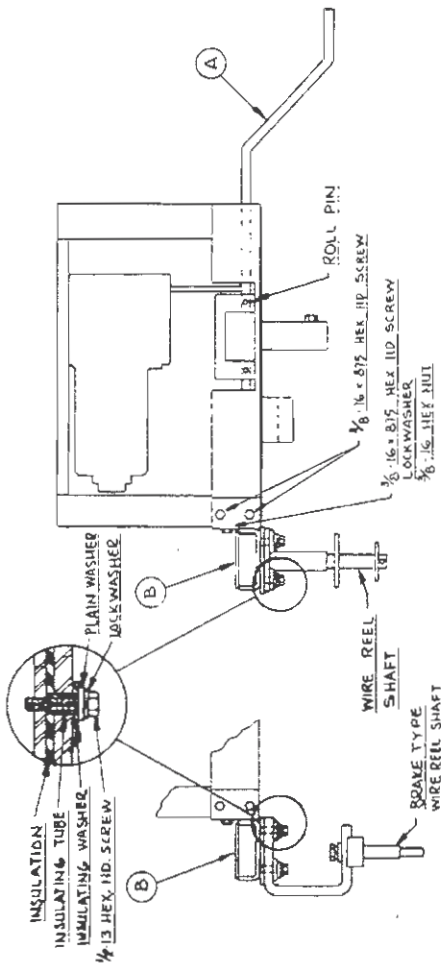

FIG. 2
- A. Insert the clutch handle (A) thru the hole in the right hand side of the carriage. Push the handle thru the carriage frame until the end goes into the lift yoke. Line up the roll pin hole in the yoke & crank and then insert the roll pin, which is shipped taped to the crank handle. Drive the roll pin until it is flush with yoke end surface.
- B. Install the wire reel mounting bracket (B) to the upper left front corner of the carriage using the hardware supplied. For LAF-3, -4, & -5, install wire reel shaft, supplied with the head, per Fig. 1. For MA-3 & MA-4, install wire reel shaft, supplied with the head, per Fig. 2. In either case, wire reel shaft must be electrically isolated from carriage frame.